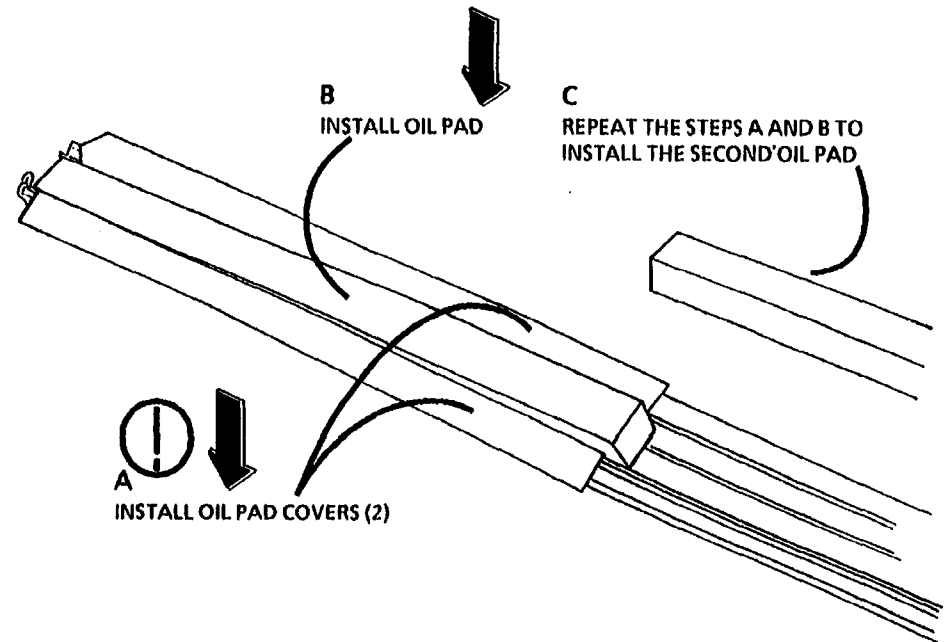

Figure 2. Installing the Oil Pads
1. (Figure 2): Install the Oil Pads.